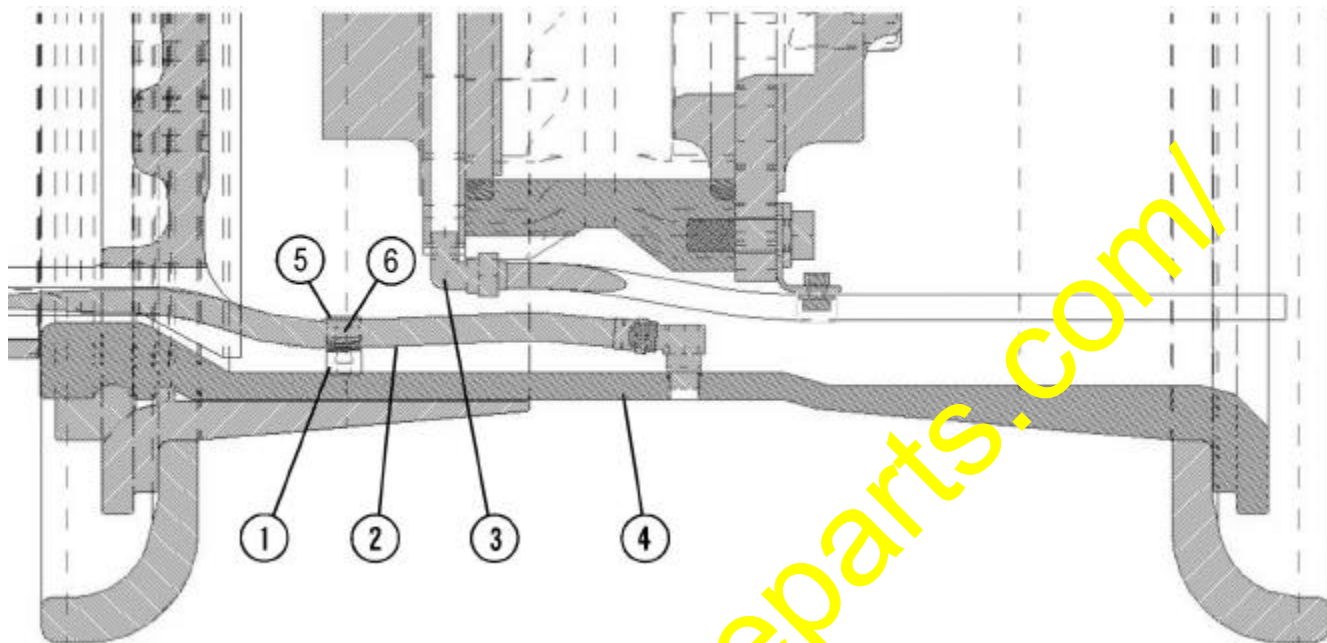

FIGURE 1. TIRE AIR VALVE EXTENSION CLAMPING
Increasing the nominal clearance between these components can be accomplished by the addition of a seat (1) and vinyl clamp (5, Figure 1). The purpose of the clamp is to hold valve extension (2) close to the inner surface of rim base (4), preventing any chafing on drain fitting (3). Tire Hose Clamp Kit (EK8717) contains seats that are to be welded to each applicable rim base allowing a clamp to be installed on the extension hose. The complete contents of the kit are listed in Table 1. The kit contains a drawing that illustrates seat installation location and welding specifications.